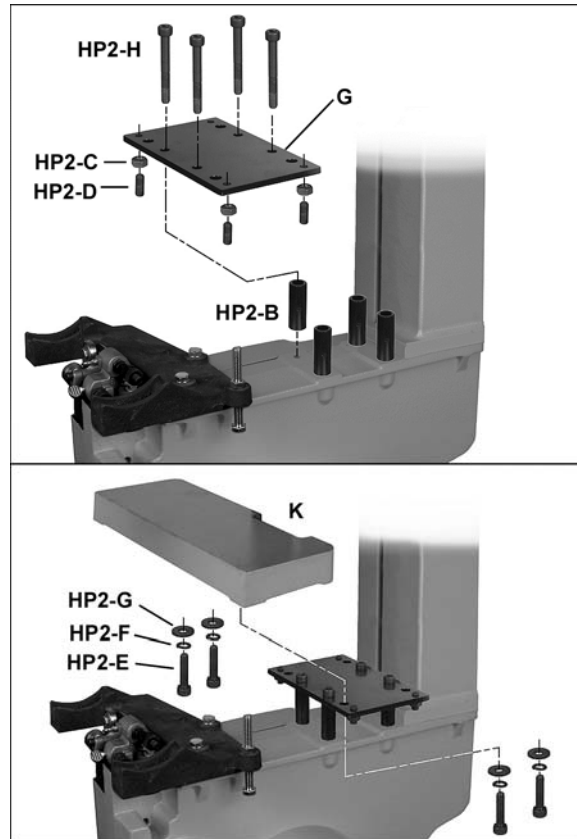

Figure 22
Refer to Figure 22.
Refer to Figures 22 and 24.
3. With the four *M6x25 socket head cap screws (HP2-E, Figure 22)* still slightly loose, loosen the *hex nuts (HP2-C)* and turn any of the four *set screws (HP2-D)* with a 4mm hex wrench, to raise or lower that part of the extension table.